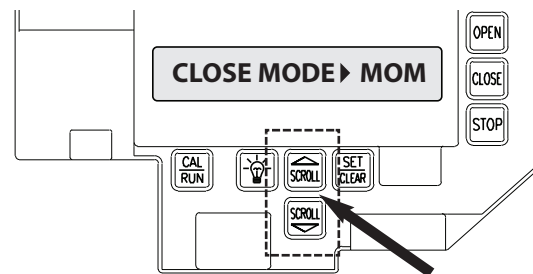

Figure 4
- 3) Press SCROLL (DN) until display reads “CLOSE MODE.” **Fig. 4.**